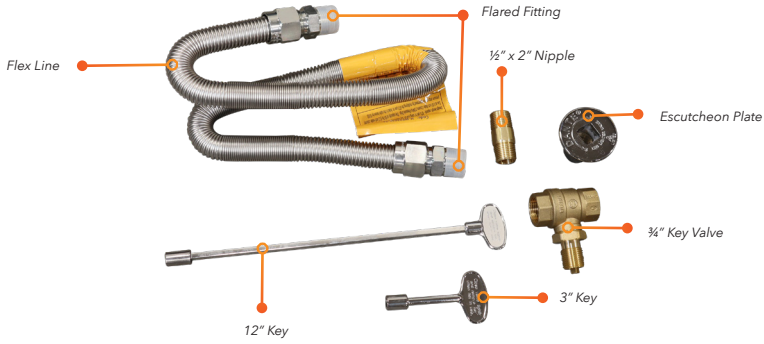

Figure 18: FK1 Flex Line Kit
6.1 Identify your FK1 flex line kit for units up to 249K BTUs. **{See Figure 18}**